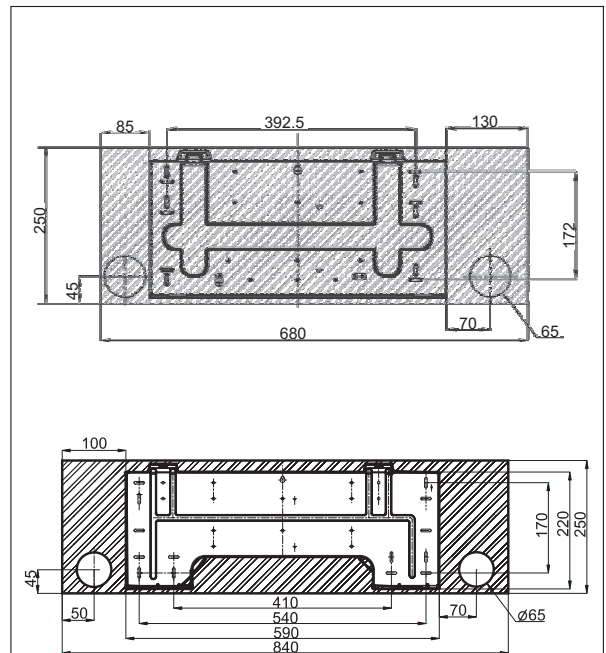

Fig 9
1. Figure 9 shows the location of the mounting plate relative to the unit size. Refer to one of the drawings, according to your unit length (marked in square).